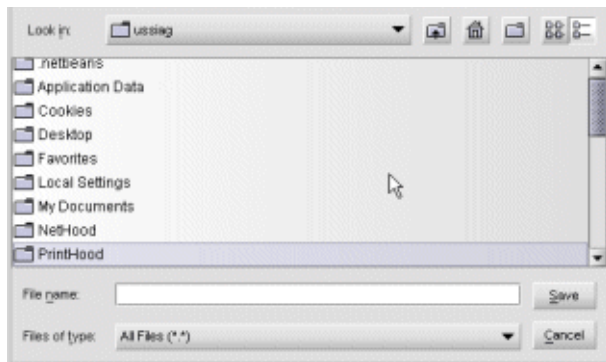

Figure 65: New Firmware Version dialog box
5. Click **New**. The New Firmware Version dialog box displays, as shown in Figure 65.